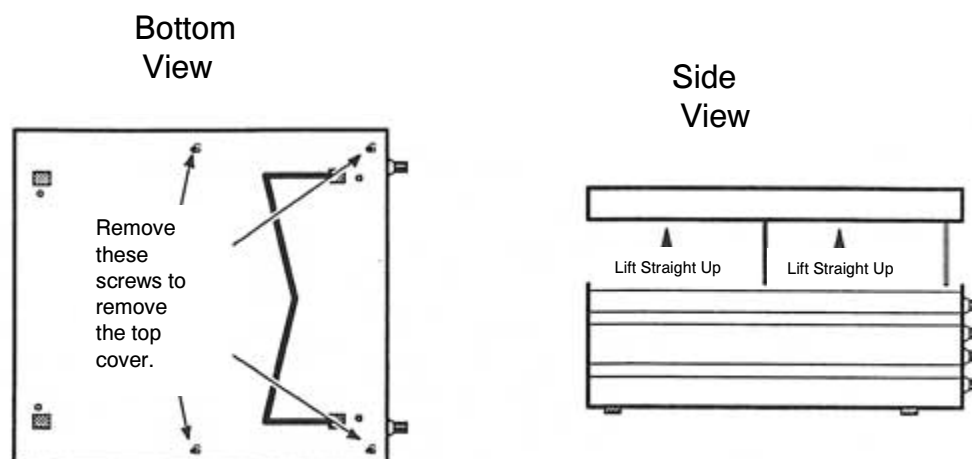

Figure 9-1. Removing the Top Cover
3. Set the Model PRT73 on a static-free work surface. Remove the top cover by removing four screws from bottom of the instrument. See Figure 9-1.
1. Set the Model PRT73 on a static-free work surface. Remove the top cover by removing four screws from bottom of the instrument. See Figure 9-1.